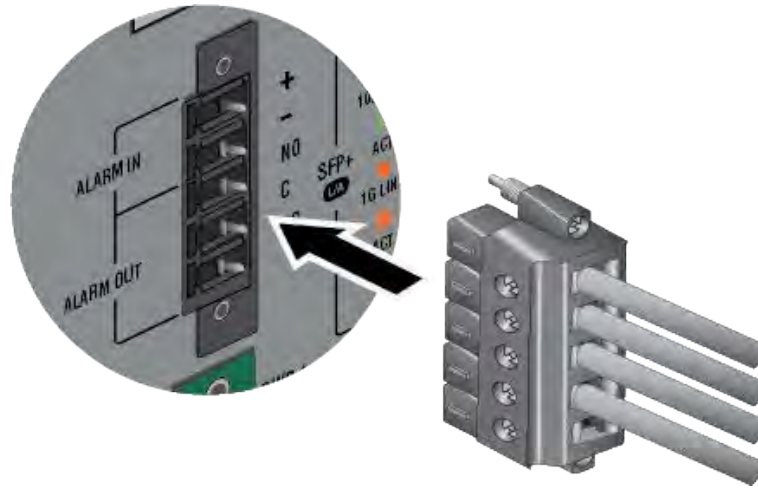

Figure 58. Inserting the ALARM IN / ALARM OUT Plug into the Connector
9. Insert the ALARM IN / ALARM OUT plug into the connector on the switch. Refer to Figure 58.